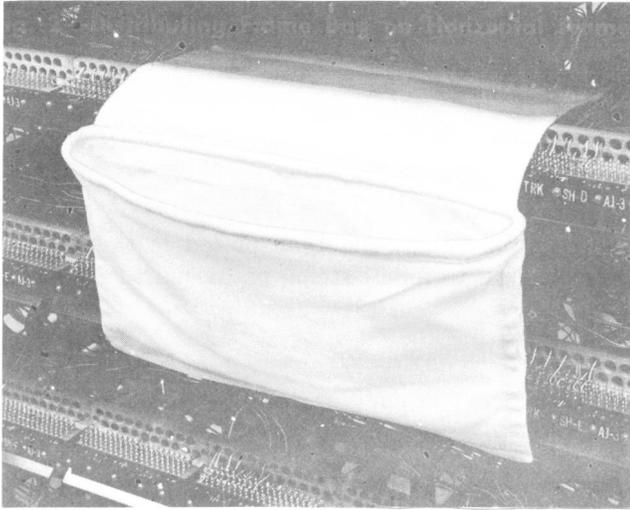

Fig. 2—Distributing Frame Bag on Horizontal Frame
2.02 When using the bag on horizontal strips or blocks, the weighted flap rests upon the frame wiring beneath the terminal strip on which is work is being performed. The pocket portion hangs downward, as shown in Fig. 2, to collect wire clippings and solder debris.